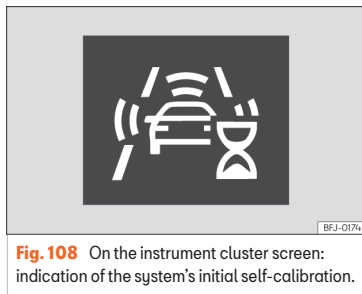

Fig. 108 On the instrument cluster screen: indication of the system's initial self-calibration.
- In the first few instants of driving after switching on the ignition, due to the system's initial auto-calibration. During this period, a status icon  Fig. 108 is displayed.